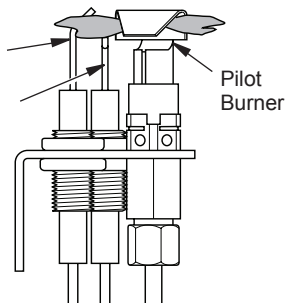

Figure 44 - Correct Pilot Flame Pattern
- Turn the adjustment screw marked PILOT clockwise to decrease or counterclockwise to increase the flame to proper size (see Figure 44). Do not remove the adjustment screw.